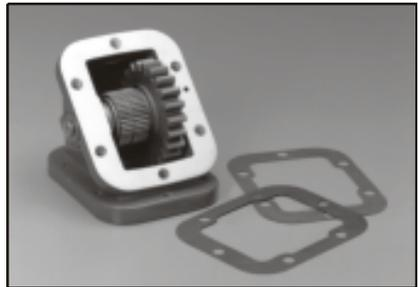

Fig. 6
6. Remove the adapter, gaskets, and filler block, if required, from the transmission. Keep the gaskets and filler block as a package. (See Fig. 6.)